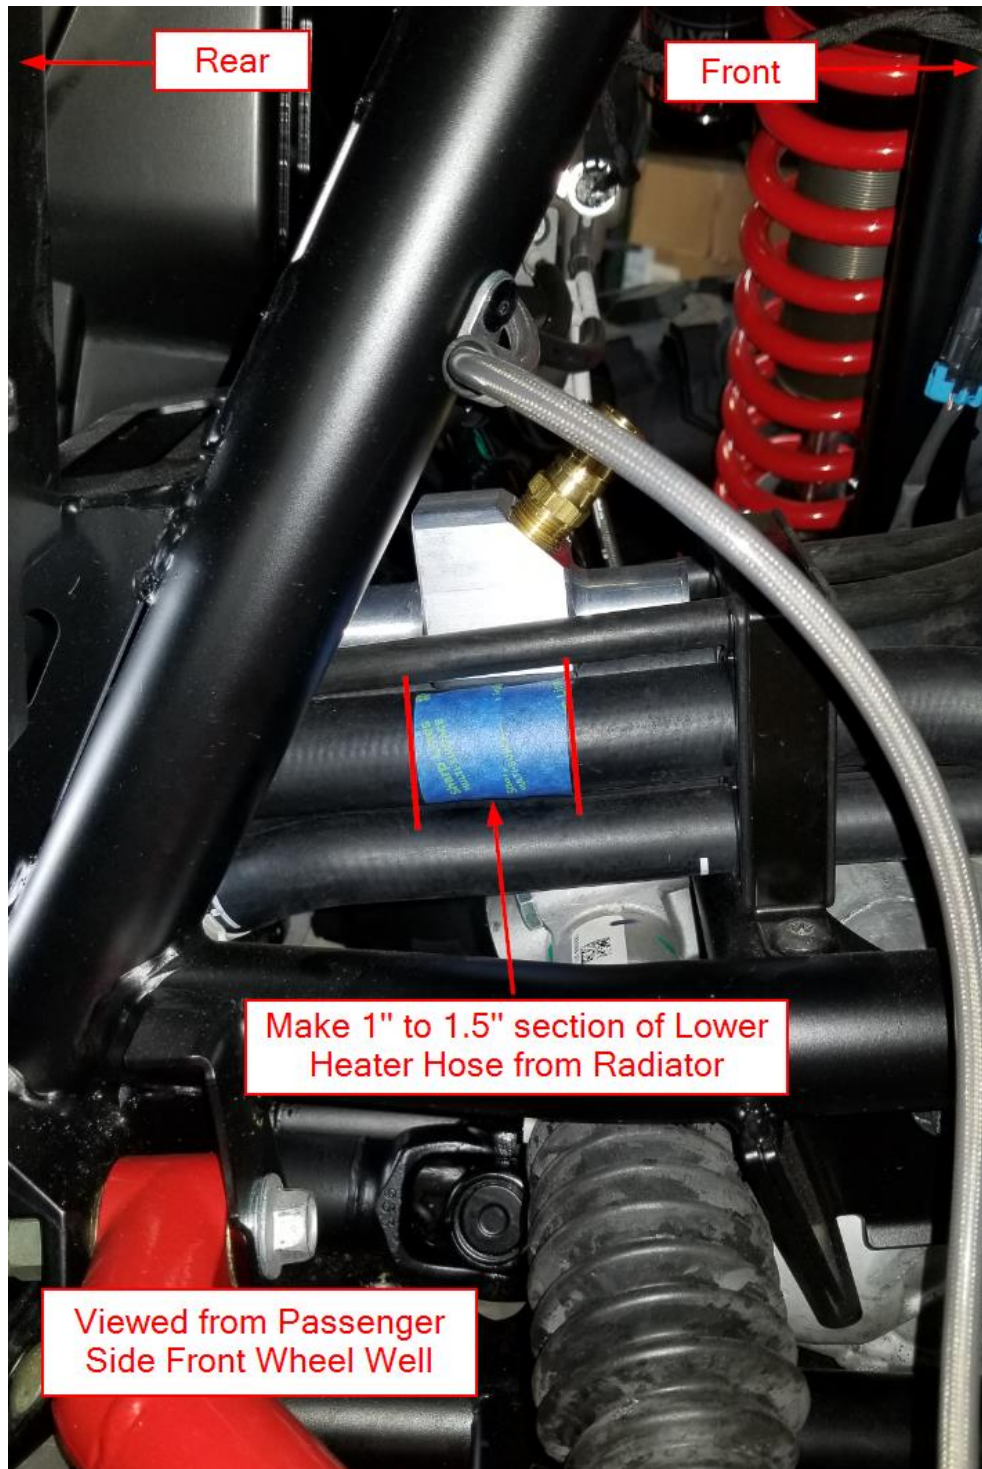

Figure 20
- o. At the front of the vehicle again mark a 1"-1.5" section of the main heater hose return line as shown Figure 20. Clamp off the upstream and downstream sections of the line if you have clamps, otherwise place a bucket under the identified area prior to cutting the hoses.
- p. Cut the 1"-1.5" section of hose and insert the 1" Brass Y in the orientation shown in Figure 20. Secure the 1" Hoses using #16 hose clamps. Loop the 3' piece of 5/8" Heater Hose and insert it over the 5/8" Brass Y Port. Secure using a #10 Hose Clamp.